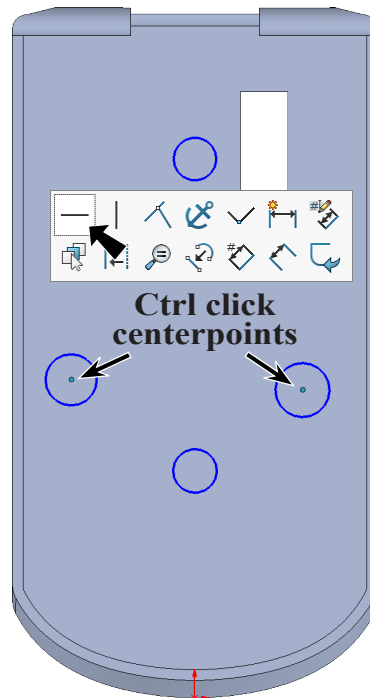

Fig. 47
Step 7. **Ctrl click centerpoint the two some what horizontal circles** to select both. Release Ctrl key and click **Make Horizontal**  on the context toolbar, **Fig. 47**.